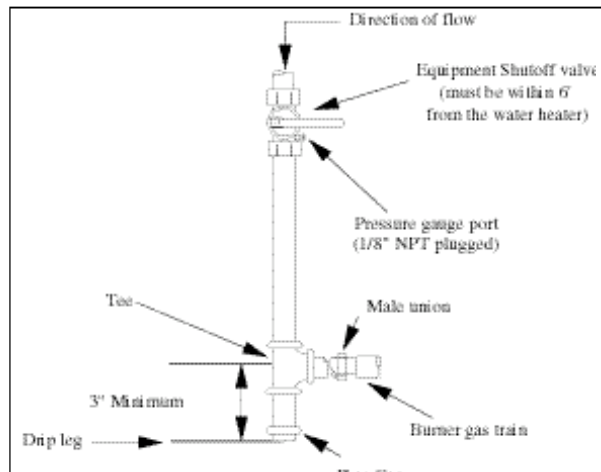

Fig. 27: Recommended Gas Supply Piping
1. Remove the burner jacket hood. Refer to Figure 27 to pipe gas supply to the burner.
- b. Install a manual shutoff valve in the gas supply piping as shown in Figure 27. For installations in Canada the installer must tag and identify the main shutoff valve.
- c. Install a drip leg on the gas supply line prior to connecting to the PERFORMANCE PLUS gas train as shown in Figure 27.